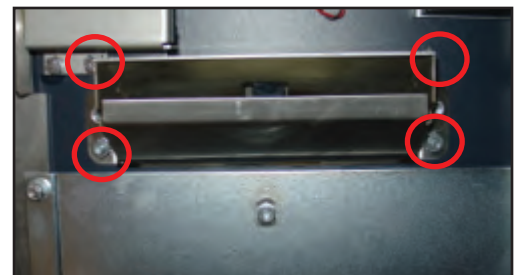

Figure 5
2. Attach top and bottom bill trays to door of unit using four nuts and washers, (see figure 5). Trays fit together at notches in edges then mount to inner door.
2. Open door fully. Secure top and bottom bill tray pieces to inside of cabinet door with four (4) nuts and washers, (see figure 5). Trays fit together at notches in edges then mount to inner door.
7. Slide dispenser toward rear of deck and allow base to slip beneath flanges on rear of deck. Lower front of SDD down onto threaded studs at front of deck. Secure SDD with two (2) wing nuts.